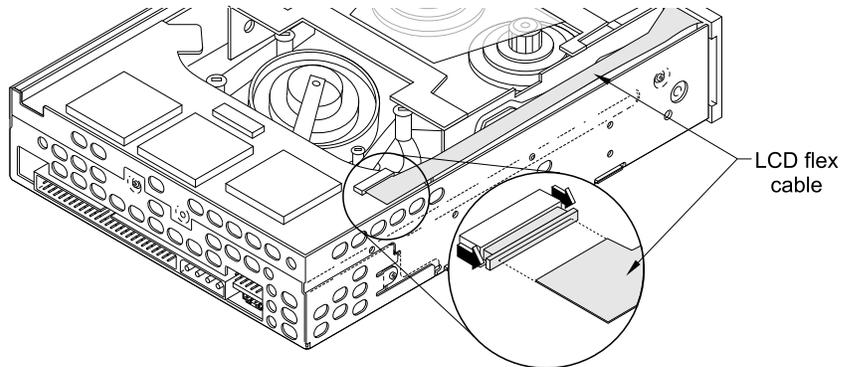

Figure 2 Loosening the LCD flex cable connector
3. If your tape drive has an LCD on the faceplate, disconnect the LCD flex cable before you remove the faceplate. Unlock the LCD flex cable connector by pulling one end of the tab and then the other toward the cable (see Figure 2). Gently pull the LCD flex cable out of the connector.